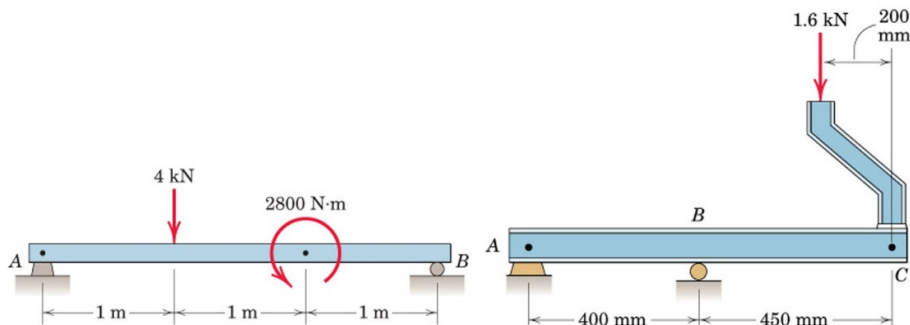

Fig. 5
Q. No. 5 Draw the shear and moment diagrams for the loaded beam shown in Fig. 5. What are the values of the shear and moment at the middle of the beam?